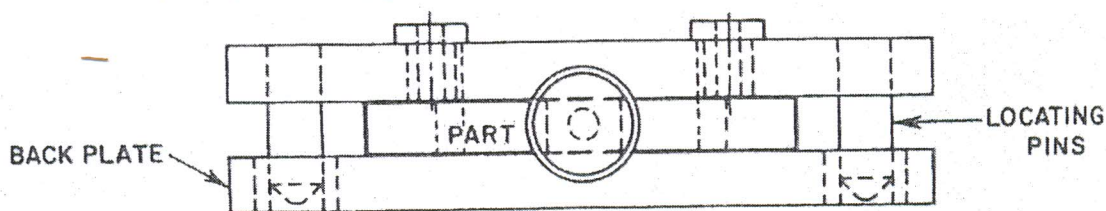

Figure 1
- (c) Classify the purpose of jig illustrated in the Figure 1 below.